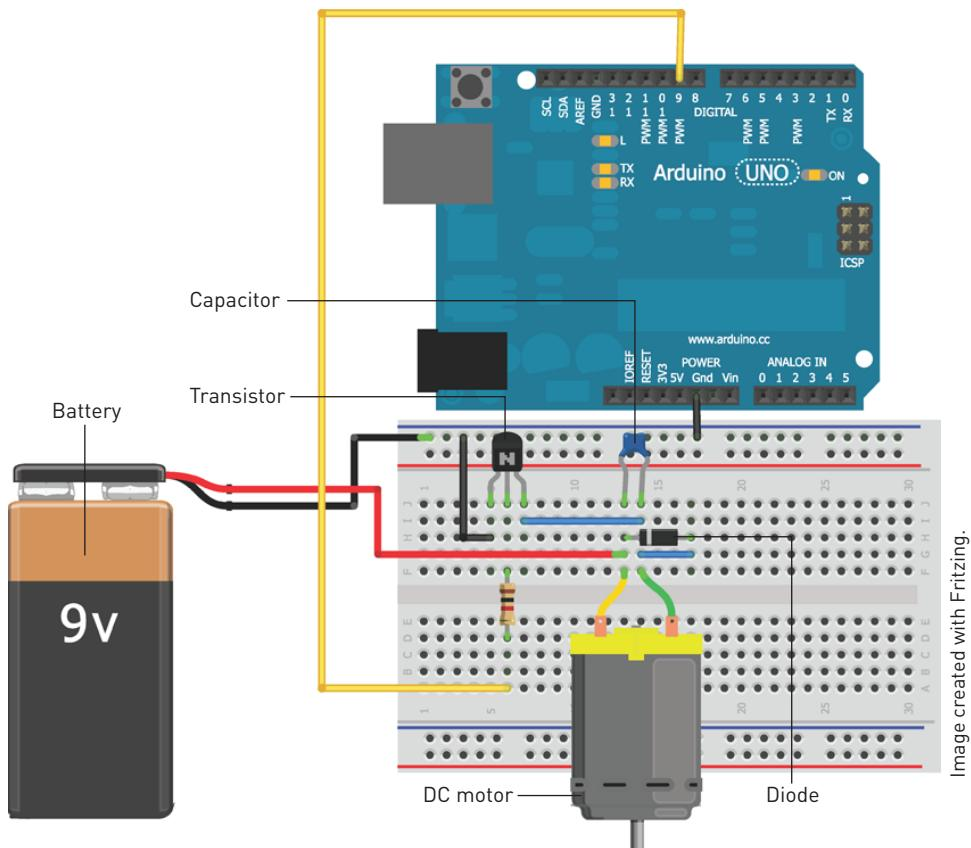

Figure 4-3: DC Motor wiring
Now that you understand the intricacies of controlling a brushed DC motor, it's time to get it wired up on your breadboard. Try to wire it by only referencing the previous schematic (shown in Figure 4-1). After you've tried to assemble the circuit using only the schematic, reference the graphical version shown in Figure 4-3 to confirm that you wired it correctly.
1. Make sure that you've connected the ground from your 9V battery to the ground from your Arduino. You might want to use the horizontal bus on the breadboard to accomplish this, as shown in Figure 4-3.